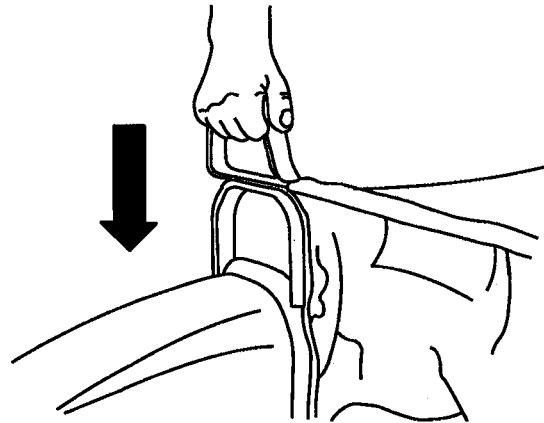

Figure 38
15. Grasp bag assembly handle and slide over flange of grass chute (Fig. 38). Push downward on handle until it seats into position.